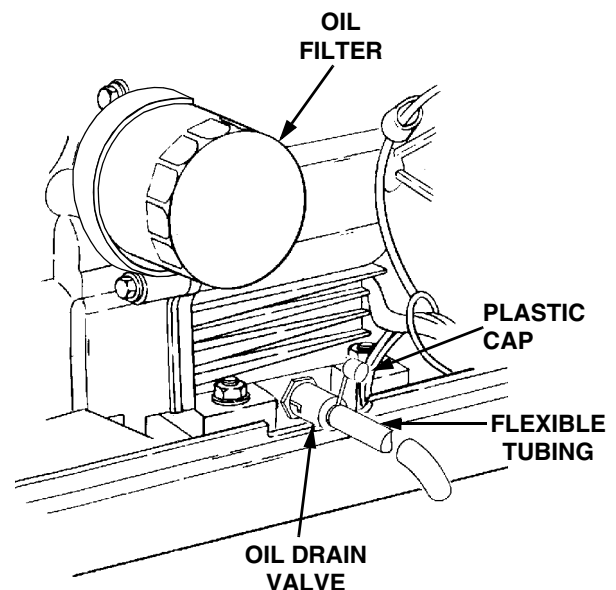

Figure 20
The oil filter is located behind the left side panel and is mounted on the engine (See Figure 20).
3. Unseat the plastic dust cap from the engine oil drain valve. To prevent loss of the cap, do not remove the cap's retaining ring from the drain valve (Refer to Figure 20). Remove the dipstick and oil fill cap.